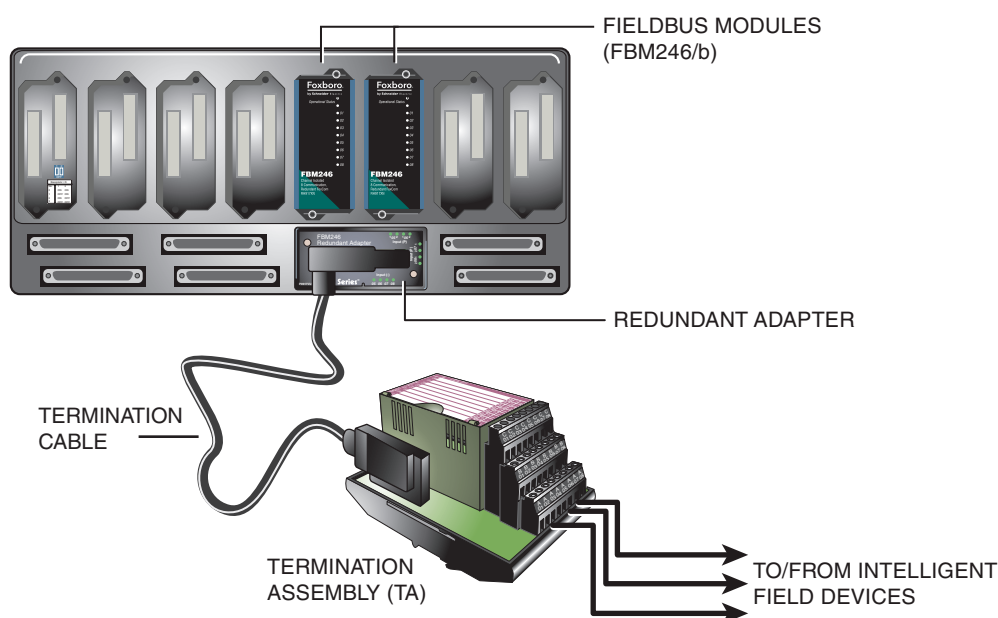

Figure 1. Redundant I/O Configuration
A redundant pair of the modules combine to provide redundancy at the Fieldbus Module (FBM) level, with field I/O wired to one common termination assembly (see Figure 1).
Redundant modules must be located in adjacent positions on the baseplate (positions 1 and 2, 3 and 4, 5 and 6, or 7 and 8). To achieve redundancy, a redundant adapter module is placed on the two adjacent baseplate termination cable connectors to provide a single termination cable connection (see Figure 1). A single termination cable connects from the redundant adapter to the associated termination assembly (TA).
A redundant adapter connects the redundant FBMs baseplate input/output connectors together. The redundant adapter provides a single termination connection to a single TA (see Figure 1).